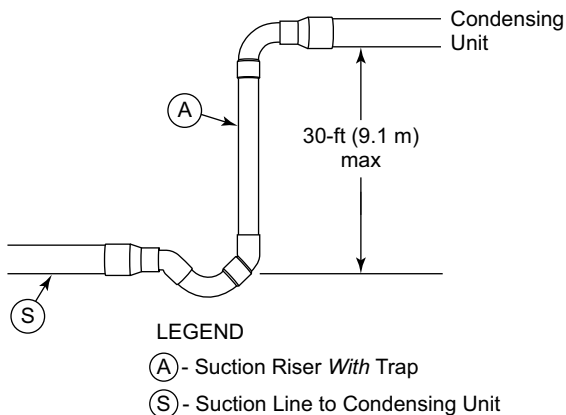

Fig. 7 — Suction Line Piping — Speed Riser
- See Fig. 7 for speed riser diagram. Tube S is the horizontal line size. Tube A is the reduced diameter riser size.
See Fig. 7 for speed riser reference, where tube S is the horizontal line size and tube A is the reduced diameter riser size.